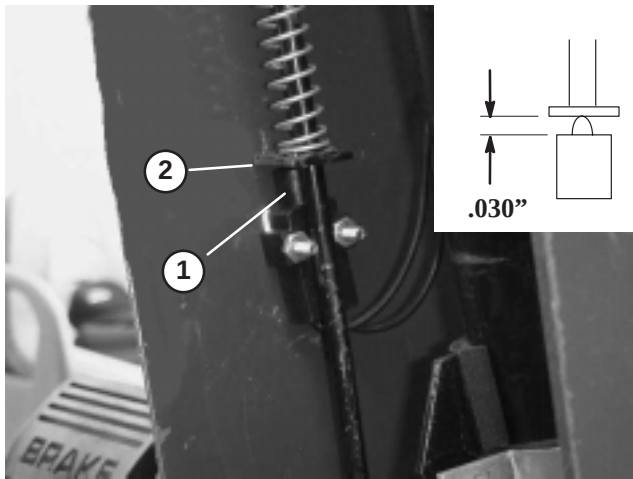

Figure 50
3. Slide cover up steering shaft to expose parking brake switch (Fig. 50).
5. Align parking brake rod paddle with switch plunger (Fig. 50)
6. Press down on parking brake rod and push up on switch until compressed length of switch plunger is .030" (Fig. 50, inset) . This the distance between the brake rod paddle and switch plunger housing.